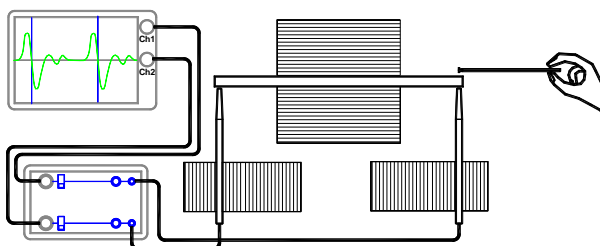

Fig. 4 Experiment set-up for investigating propagation of transverse sound waves in rods
- Set up the experiment as shown in Fig. 4. Use the 400-mm stainless steel tube as the sample. Make sure that the distance between the microphone probe and the test rod is about 1 mm. Example oscilloscope settings could be time base: 20 $\mu\text{s}/\text{div}$, vertical deflection: 2 V/div DC, CH2 1 V/div DC; trigger: source CH1, type edge, mode normal, threshold 1 – 2 V.
- Use the beater to strike the rod as shown in Fig. 4.